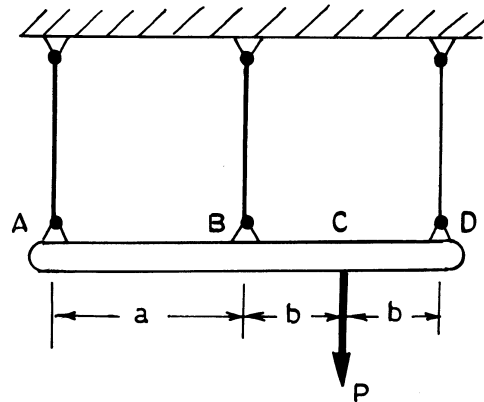

Fig. 5
7. The rigid bar ABCD is suspended from three identical wires as shown in Fig. 5. Knowing that $a = 2b$, determine the tension in each wire caused by the load P applied at C.